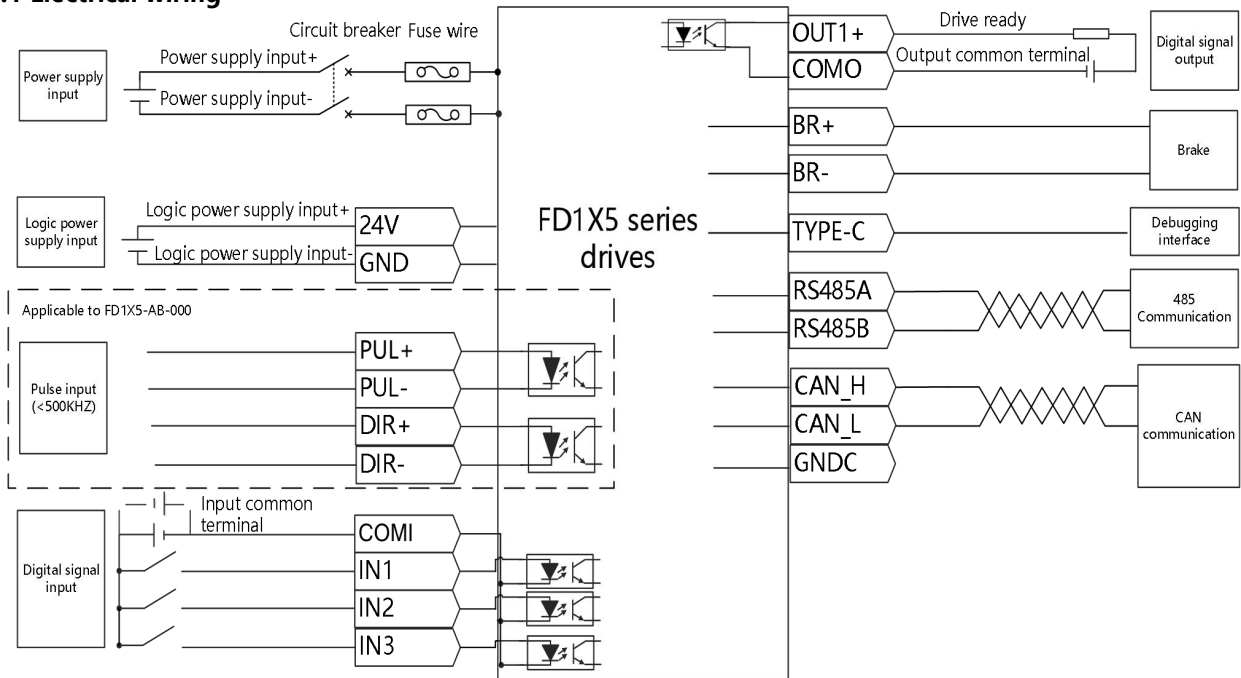

Figure 3-12 FD1X5 series drivers electrical wiring diagram
- Figure 3-12 shows the wiring of the FD1X5 series driver with the default IO function. More IO functions can be defined by the upper computer software.